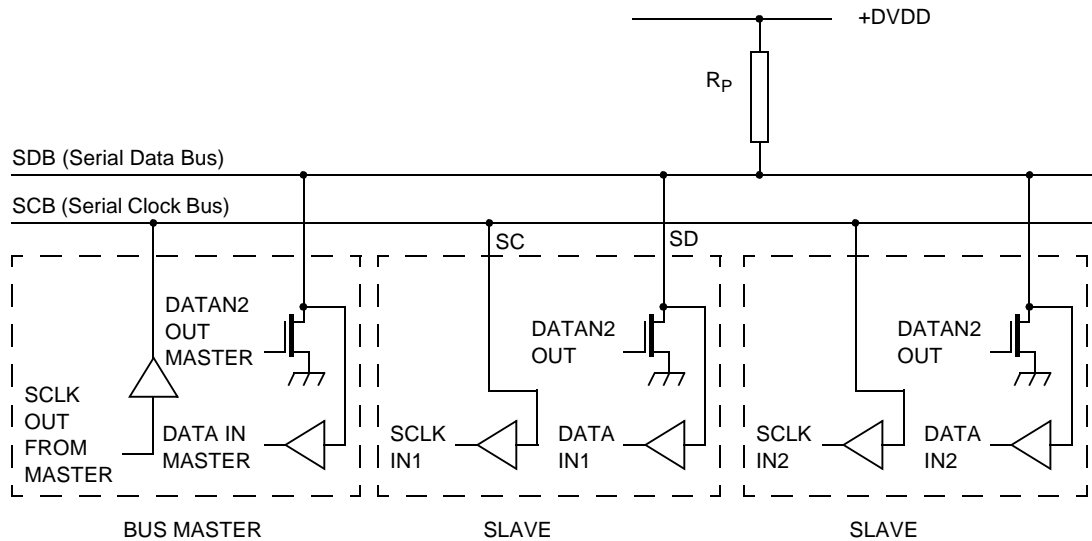

Figure 8: Connection of Devices to the Bus
The CH7009 contains a standard I²C control port, through which the control registers can be written and read. This port is comprised of a two-wire serial interface, pins SD (bidirectional) and SC, which can be connected directly to the SDB and SCB buses as shown in **Figure 8**.
The Serial Clock line (SC) is input only and is driven by the output buffer of the master device (also shown in **Figure 8**). The CH7009 acts as a slave, and generation of clock signals on the bus is always the responsibility of the master device. When the bus is free, both lines are HIGH. The output stages of devices connected to the bus must have an open-drain or open-collector to perform the wired-AND function. Data on the bus can be transferred up to 400 kbit/s.
The electrical specifications of the bus devices' inputs and outputs and the characteristics of the bus lines connected to them are shown in **Figure 8**. A pull-up resistor (R_p) must be connected to a $3.3V \pm 10\%$ supply. The CH7009 is a device with input levels related to DVDD.